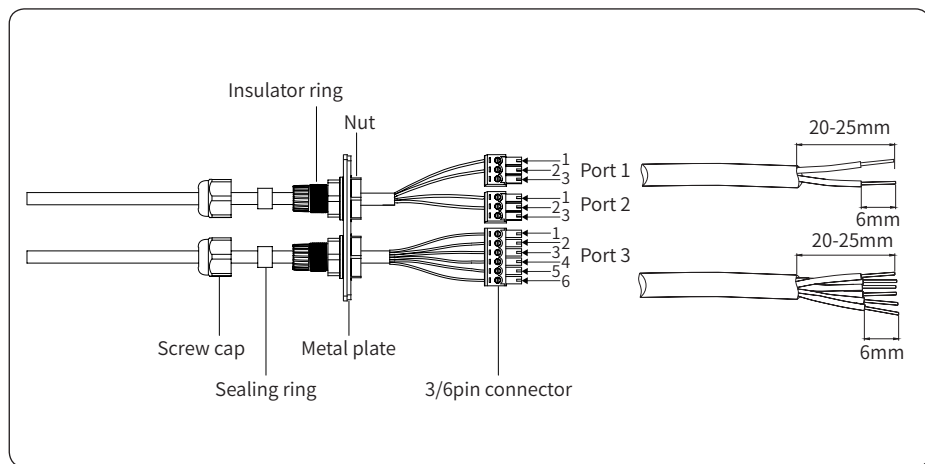

Figure 4-22
- 2) Put the cables which you need through the components in the following order: screw cap, sealing ring, insulator, metal plate, nut and 3/6pin connector, as shown in Figure 4-22: